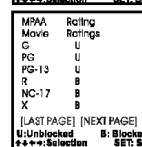

Figure 4
10. When you have completed the settings, press the ADJ keys (MENU $\uparrow \downarrow \leftarrow \rightarrow$ keys on the remote) to select FINISH to complete. The screen will now display "Parental Guide ACCOMPLISHED" for 5 seconds (see Figure 4). Or you can select LAST PAGE to go back to last setting.